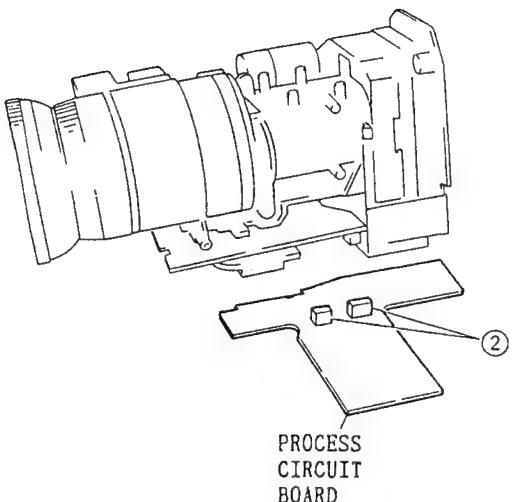

Fig. 2-23
- Disconnect two (2) connectors (CN006, CN302). (See Fig. 2-23)